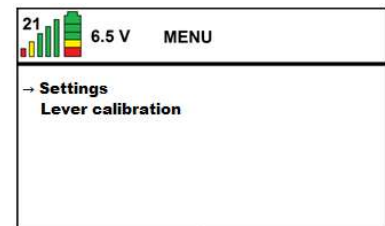

Figure 45
- Activate the winch control by pressing the ✓ button on the remote control (see *figure 45*).